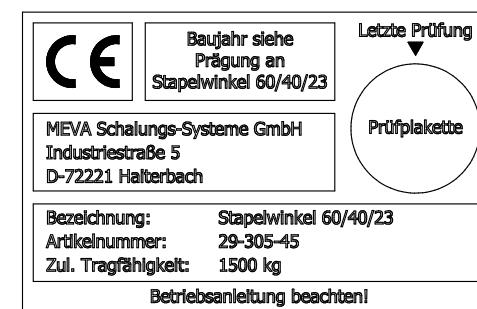

Fig. 6 Data plate
formwork panel so that the panel lies on the supporting surface ④ with the facing side upwards (Fig. 6). This protects the facing when it is being moved by a forklift truck.
The stacking angle 60/40/23 must be visually inspected before every use in accordance with the applicable national industrial safety regulations for damage, deformation, corrosion, and cracked welds or incipient cracks in welds, etc. Ensure that the stacking angle 60/40/23 is complete and that moving parts are secure, and check it for correct function and wear. Damaged products must not be reused. The data plate (Fig. 6) and the load capacity data must be present and legible.